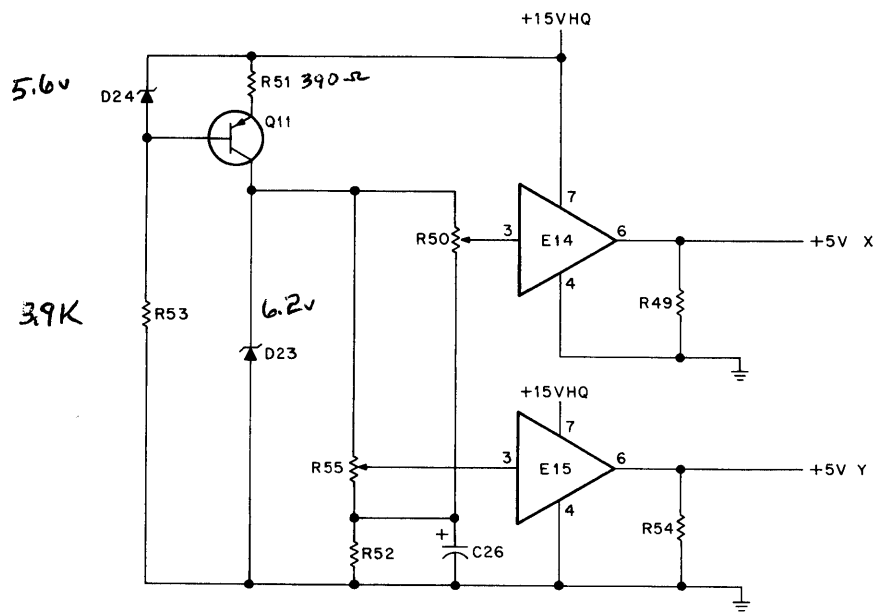

Figure 4-44 +5V Reference
**4.4.2.7 Positive Reference Source** – The +5V reference is used by the analog switches to supply a constant current to the summing junction (see Figure 4-44). E14 and E15 are adjusted to maintain a constant output current. The output will be adjusted to  $5.12V \pm 5\text{ mV}$  and the amplifiers will maintain this level as current requirements change.